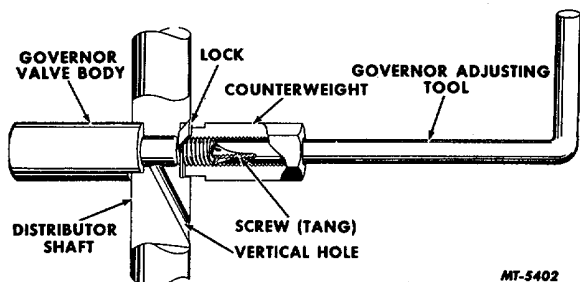

Fig. 58 Governor Valve Assembly
- b. Place slotted end of installer tool through horizontal hole in distributor shaft, starting from side nearest vertical hole (see Fig. 58). Place governor valve body on slotted end of installer tool (Fig. 30, Page 14) and engage tang of governor adjusting screw into slot in end of installer tool (Fig. 58).
- d. Insert slotted end of governor adjusting tool through governor adjusting hole and engage adjusting screw tang, as shown in Fig. 58, Page 24. Turn adjusting screw clockwise to decrease governed speed or counterclockwise to increase governed speed. One-fourth (1/4) turn of screw will effect governed speed approximately 100 RPM. Remove adjusting tool.